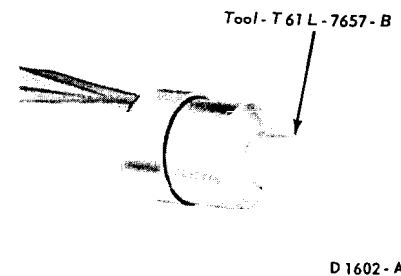

FIG. 22—Installing Extension Housing Seal
6. Install the seal into the housing with the tool shown in Fig. 22. The seal should be firmly seated in the bore. Coat the inside diameter of the fiber portion of the seal with B8A-19589-A lubricant.